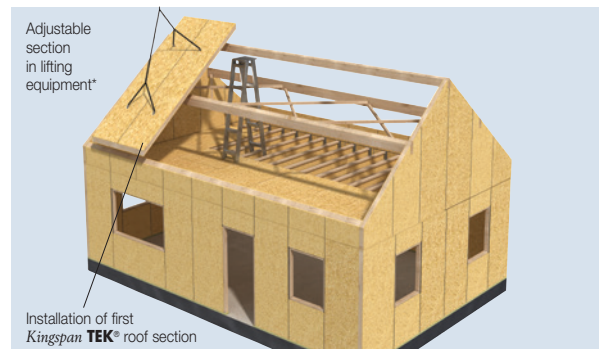

Figure 26a Lifting and Positioning Roof Sections onto the Roof With A Crane
**Kingspan TEK® Building System** roof sections should be lifted into position using a crane fitted with an adjustable chain as illustrated in Figures 26a and 26b.
To lift **Kingspan TEK® Building System** roof sections, drill four holes (25 – 40 mm diameter) through the roof section making sure that the holes will not end up over a supporting wall or purlin. Insert a lifting strap into each hole, as illustrated in Figure 26a. The straps should spread the load through the use of a 50 x 50 x 500 mm solid timber located beneath the roof section. The lifting strap holes should be filled with expanding foam once the lifting straps are removed.